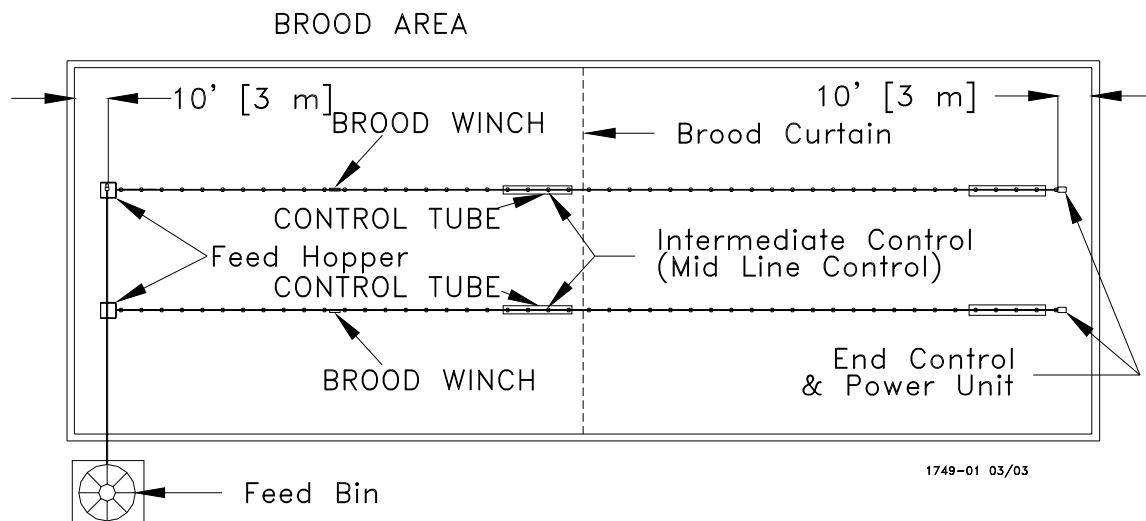

Figure 1. Component location diagram for systems up to 400 feet [122 m]. (Top View).
- A. Optional Mid Line Controls may be used for partial house brooding. See “**Figure 1. Component location diagram for systems up to 400 feet [122 m]. (Top View).**” on page 6.